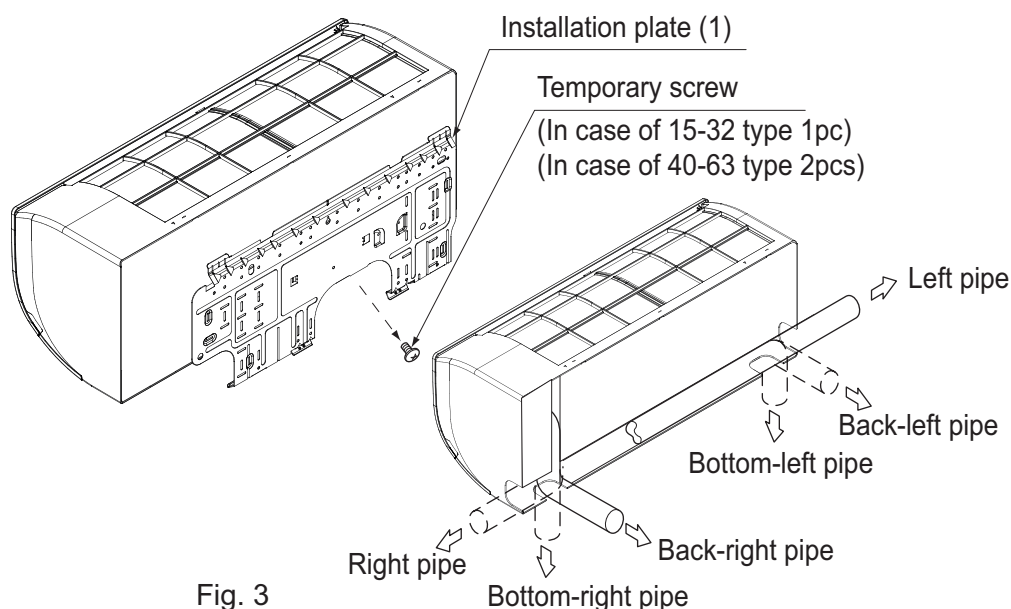

Fig. 3
(1) Open the piping through-hole.
- The refrigerant pipe and drain pipe can be passed out in one of 6 directions: left, bottom-left, back-left, right, bottom-right, and back-right. **(Refer to Fig. 3)**
(2) Remove the installation plate (1) from the unit and attach to the wall.
(Refer to Fig. 3)